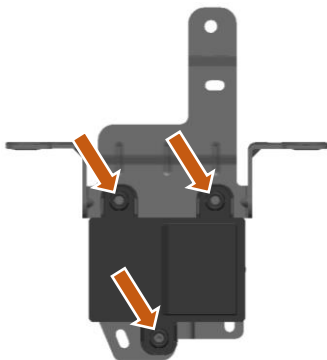

Figure 25: Cut Line for Front Radar Bracket
22. If applicable, remove the front radar sensor from the factory sensor bracket by gently, but firmly pulling the sensor off the posts (Figure 25). Retain the bottom torx bolt.